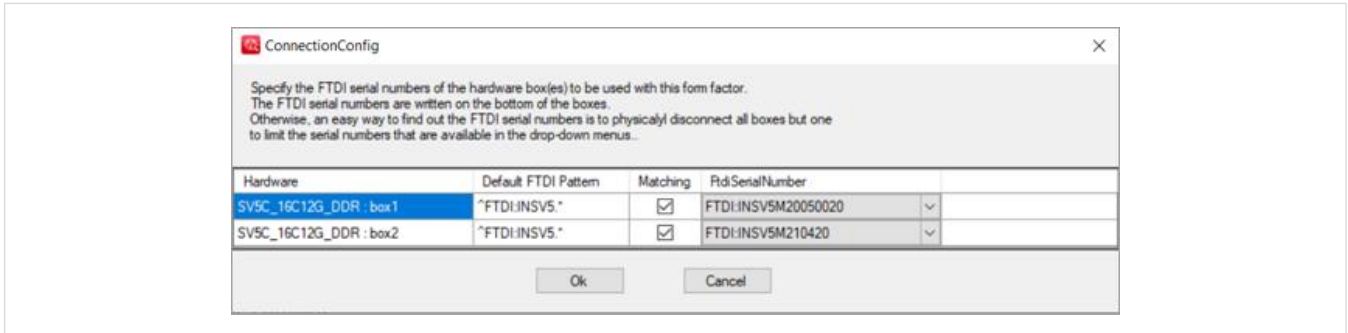

Figure 2: Adding serial numbers to 32 channel form factor.
4. Open the "ConnectionConfig" tool (IESP/SV5C_32C12G_DDR -> ConnectionConfig). Select the FtdiSerialNumber for box 1 to be the number recorded in step 2, and use the other option in the drop-down menu for box 2, as shown in Figure 2: